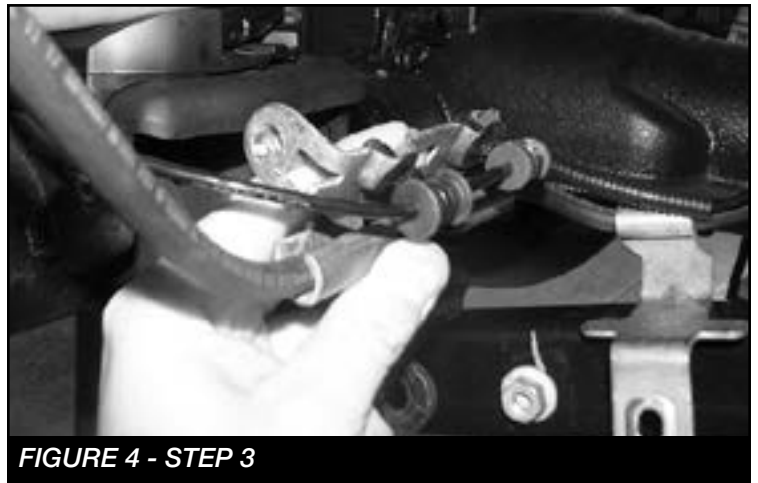

FIGURE 4 - STEP 3
3. Unbolt and remove both driver and passenger side brake line brackets from the axle spring perch. **SEE FIGURE 4**